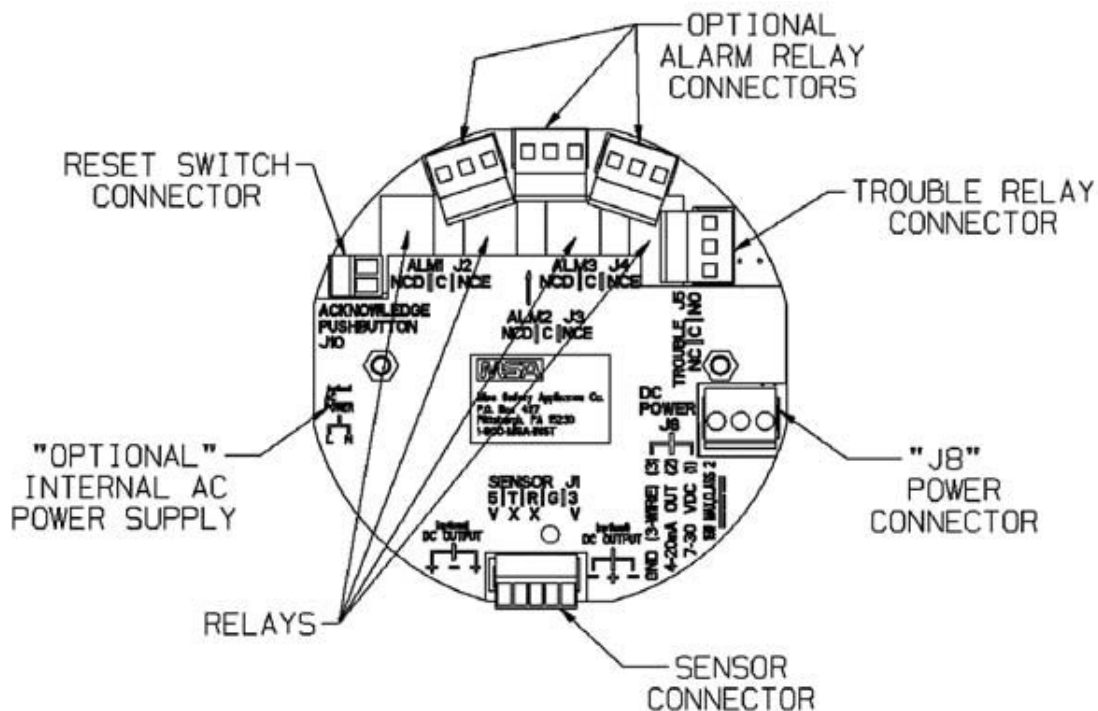

Fig. 16 Three-Wire Printed Circuit Board (no HART Protocol)
- (1) Connect 8-30 VDC power lead to J8-1 (see Fig. 16)
- (2) Connect J8-2 to the 4-20 mA output on the remote system.
- (3) For three-wire operation, connect the signal ground to J8-3.
- (4) Connect the sensor module to main pc board connector J-1.
- (5) Wire for optional relays, if applicable (see 6 "Appendix A, Optional Features").
- (6) Assemble lid on the enclosure.